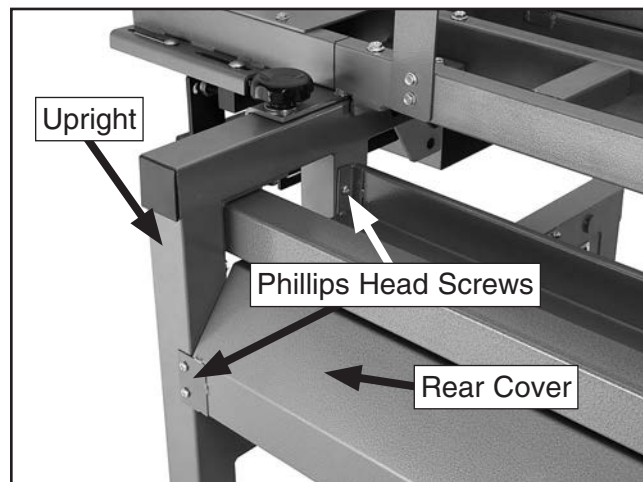

Figure 26. Rear cover.
16. Attach the rear cover to the left and right uprights with the (6) $\frac{1}{4}$ -20 x $\frac{1}{2}$ " Phillips head screws, as shown in **Figure 26**.